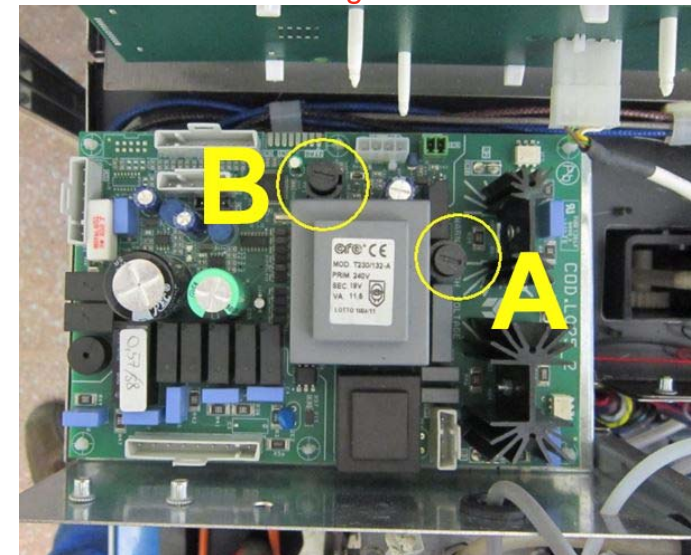

Fig.2
3. The two safety thermostats on the coffee exchanger (Fig.2) and on the steam/hot water exchanger (Fig.1).